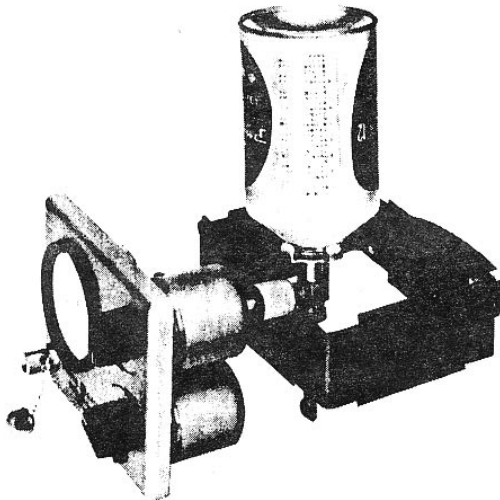

Fig. 6. Refilling Leak Standard
6. Support the can of refrigerant — to prevent the unit from tipping over — by placing the edge of the instrument's center section (which was removed in Step 2) under the knurled part (largest diameter) of the coupler (see Fig. 6).